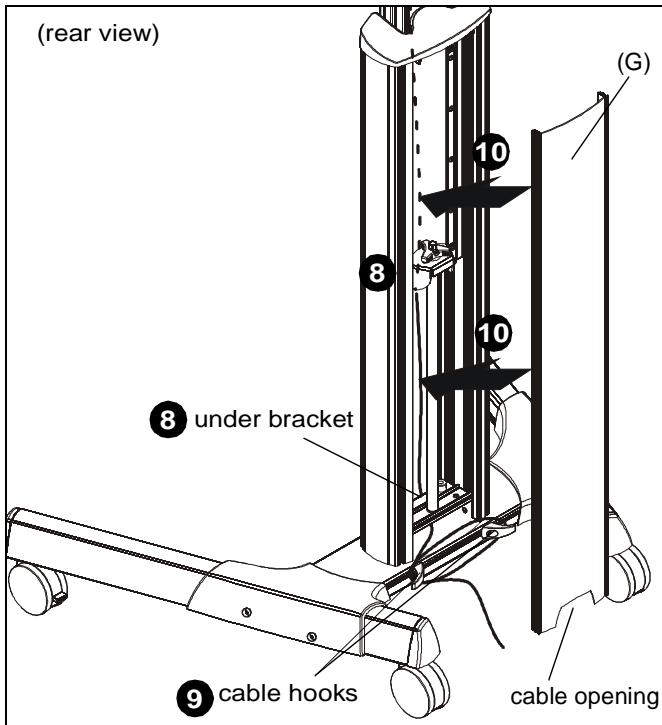

Figure 14
8. Route cables down column channel, tucking them behind height-adjustment carriage and underneath bracket holding height-adjustment shaft. (See Figure 14)
9. Wrap cables around cable hooks as desired. (See Figure 14)
10. Snap back cover (G) onto back of column assembly making sure cables fit through opening at bottom of cover. (See Figure 14)